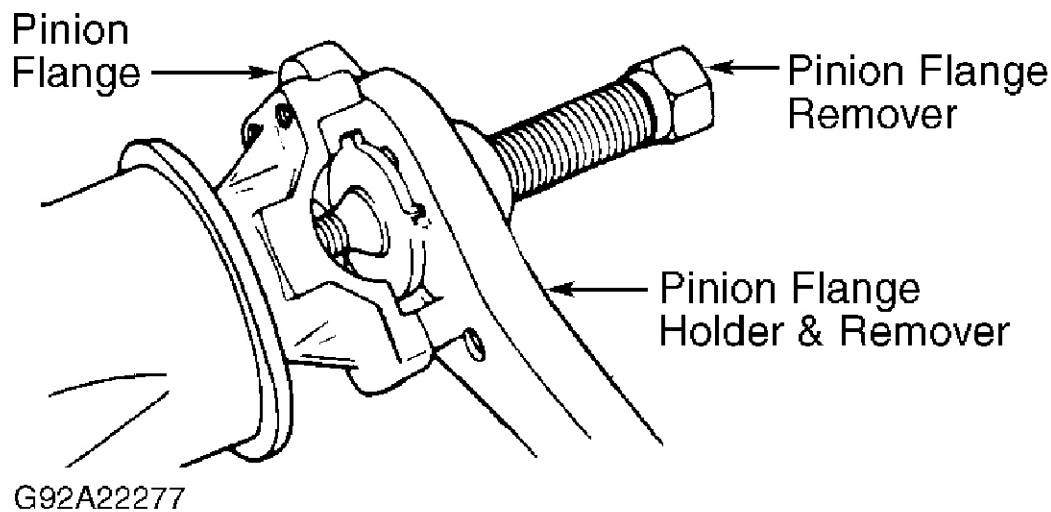

Fig. 2: Removing Pinion Flange
2. Hold pinion flange with Pinion Flange Holder/Remover (J-8614-01). See **Fig. 2**. Remove pinion self-locking nut and washer (if equipped) from yoke. Remove pinion flange yoke from axle carrier using special nut and forcing screw of holder/remover. Remove pinion oil seal from axle carrier.
8. Using Pinion Flange Holder/Remover (J-8614-01), remove drive pinion nut and washer. See **Fig. 2**. Using pinion flange holder/remover, remove pinion flange.